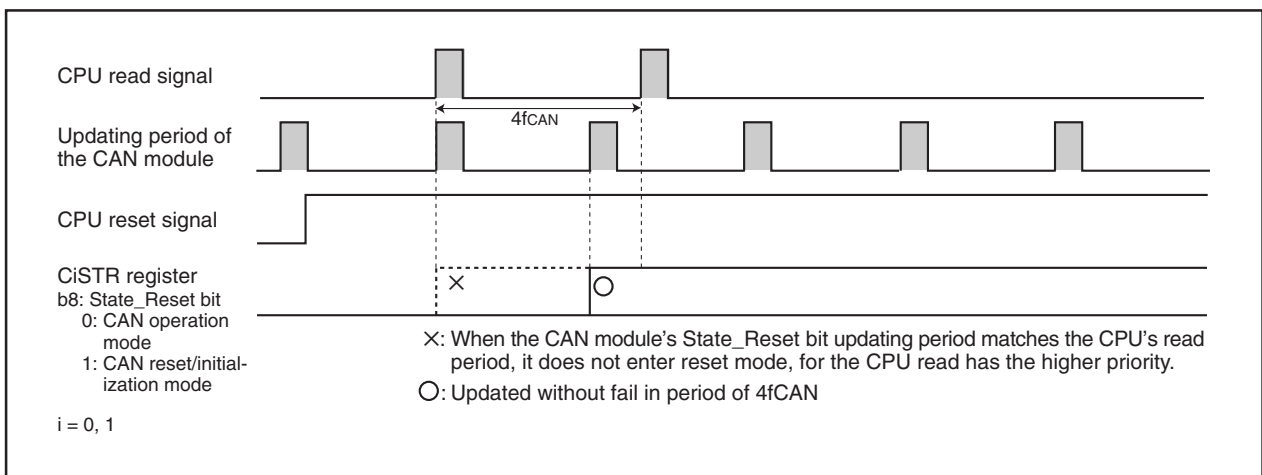

Figure 23.7 When Polling Period of CPU is 3fCAN or Longer
- (b) When the CPU polls the CiSTR register, the polling period must be $3f_{CAN}$ or longer. (See **Figure 23.7 When Polling Period of CPU is $3f_{CAN}$ or Longer.**)